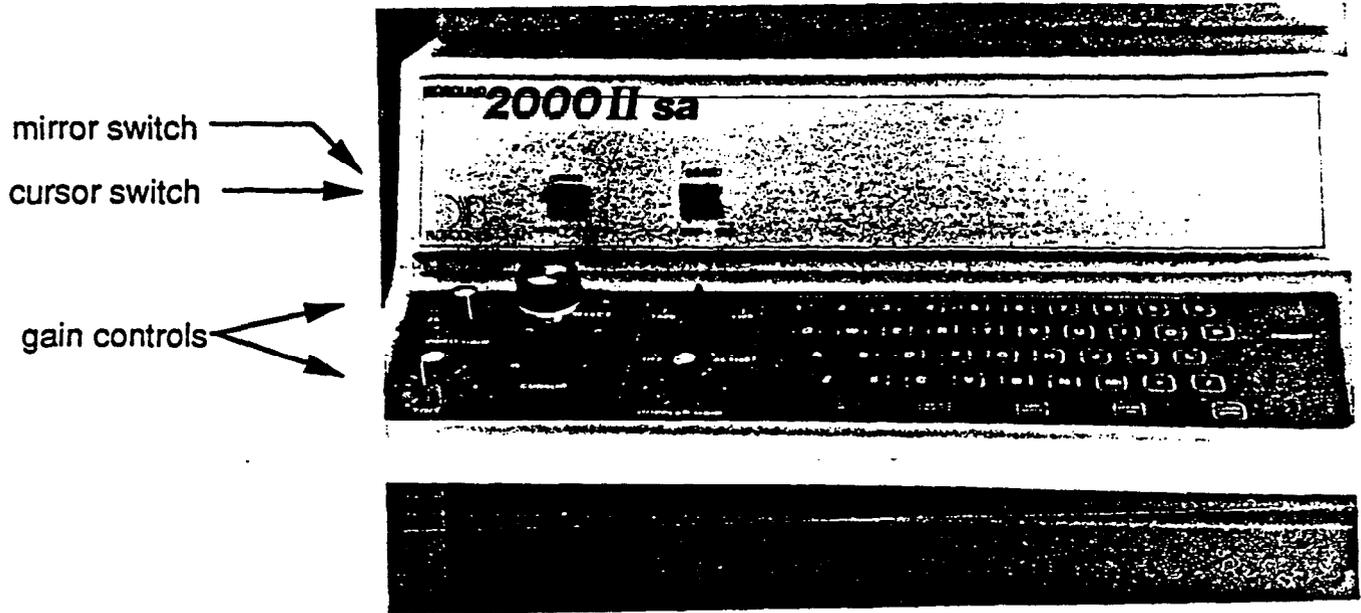

Figure 10. Biosound Control Panel
5. Flip the cursor switch on the Biosound to the DOPPLER position (see Figure 10).
5. Flip the MIRROR SWITCH on the Biosound (see Figure 10) to the OFF position and observe that the image is replaced by a series of vertical lines.
6. The Biosound VIDEO and TGC gain controls (See Figure 10) which were used to obtain the B-mode image, should allow satisfactory tracking. If difficulty is encountered, the VIDEO and TGC gains may be increased to facilitate tracking.